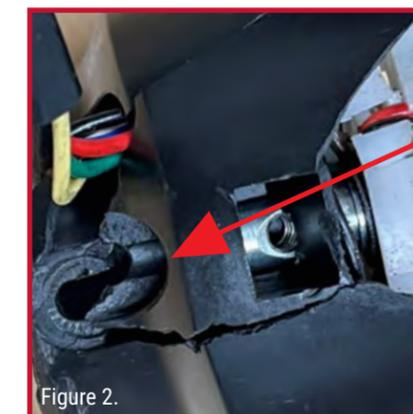

Figure 2. Damage to the turn signal housing assembly.
- Vehicle operators may damage the turn signal housing assembly (figure 2).